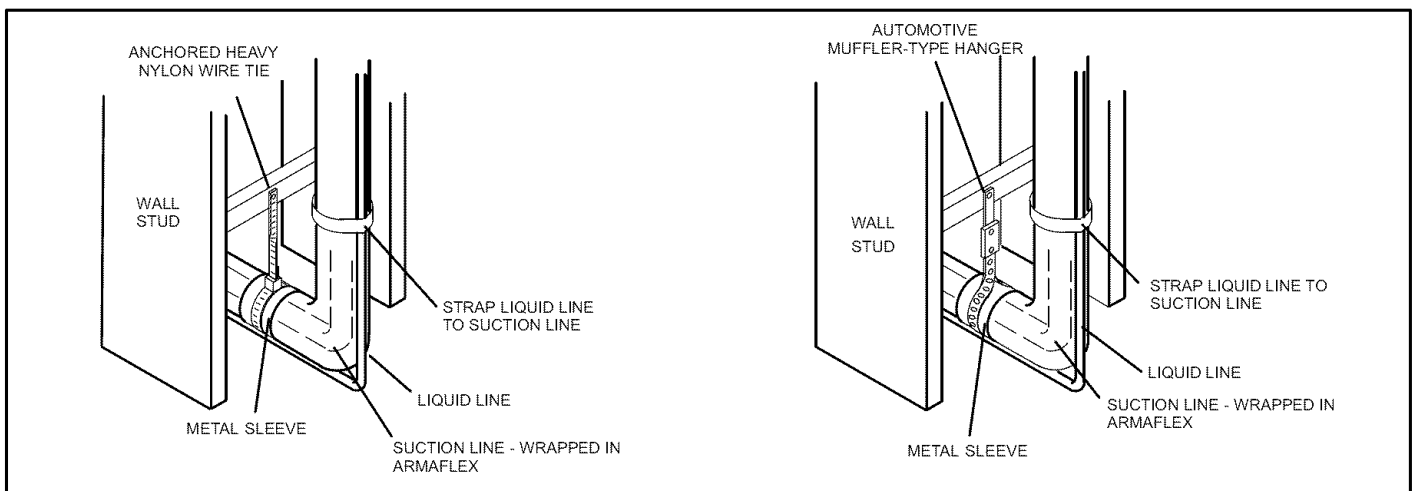

Figure 12. Refrigerant Line Set: Transition from Vertical to Horizontal
- Installation of a **transition from horizontal to vertical** is illustrated in figure 12.